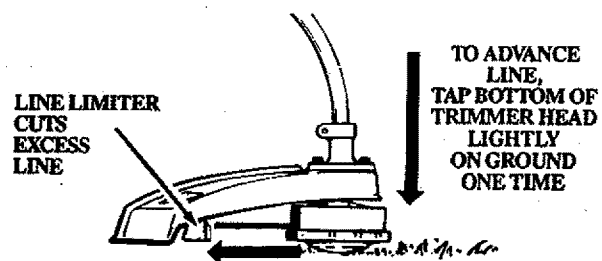

Figure 12
- Tap the bottom of the trimmer head lightly on the ground one time. See Figure 12. Approximately 2 inches of line will be advanced with each tap.